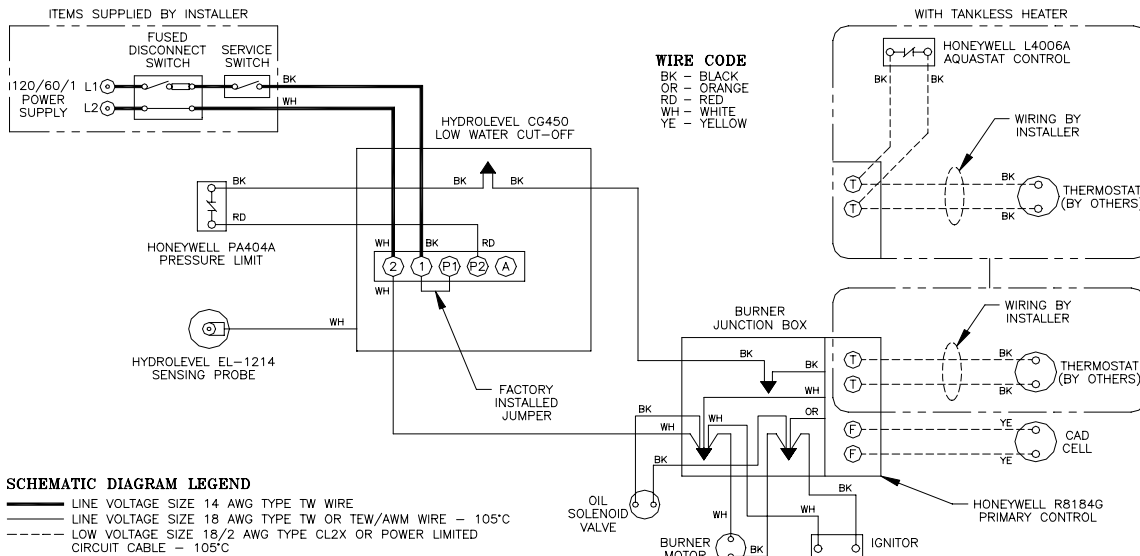

Fig. 17: Wiring Diagram for Steam Boilers with Standard Hydrolevel CG-450 Probe LWCO, Beckett AFG Burner and Controls, with or without Tankless Heater
- H. INSTALL ELECTRIC WIRING** in accordance with National Electrical Code and local regulations. A separate ELECTRICAL CIRCUIT should be run from meter with a Fused Disconnect Switch in the Circuit. Wiring should conform to Figures 17 thru 23.